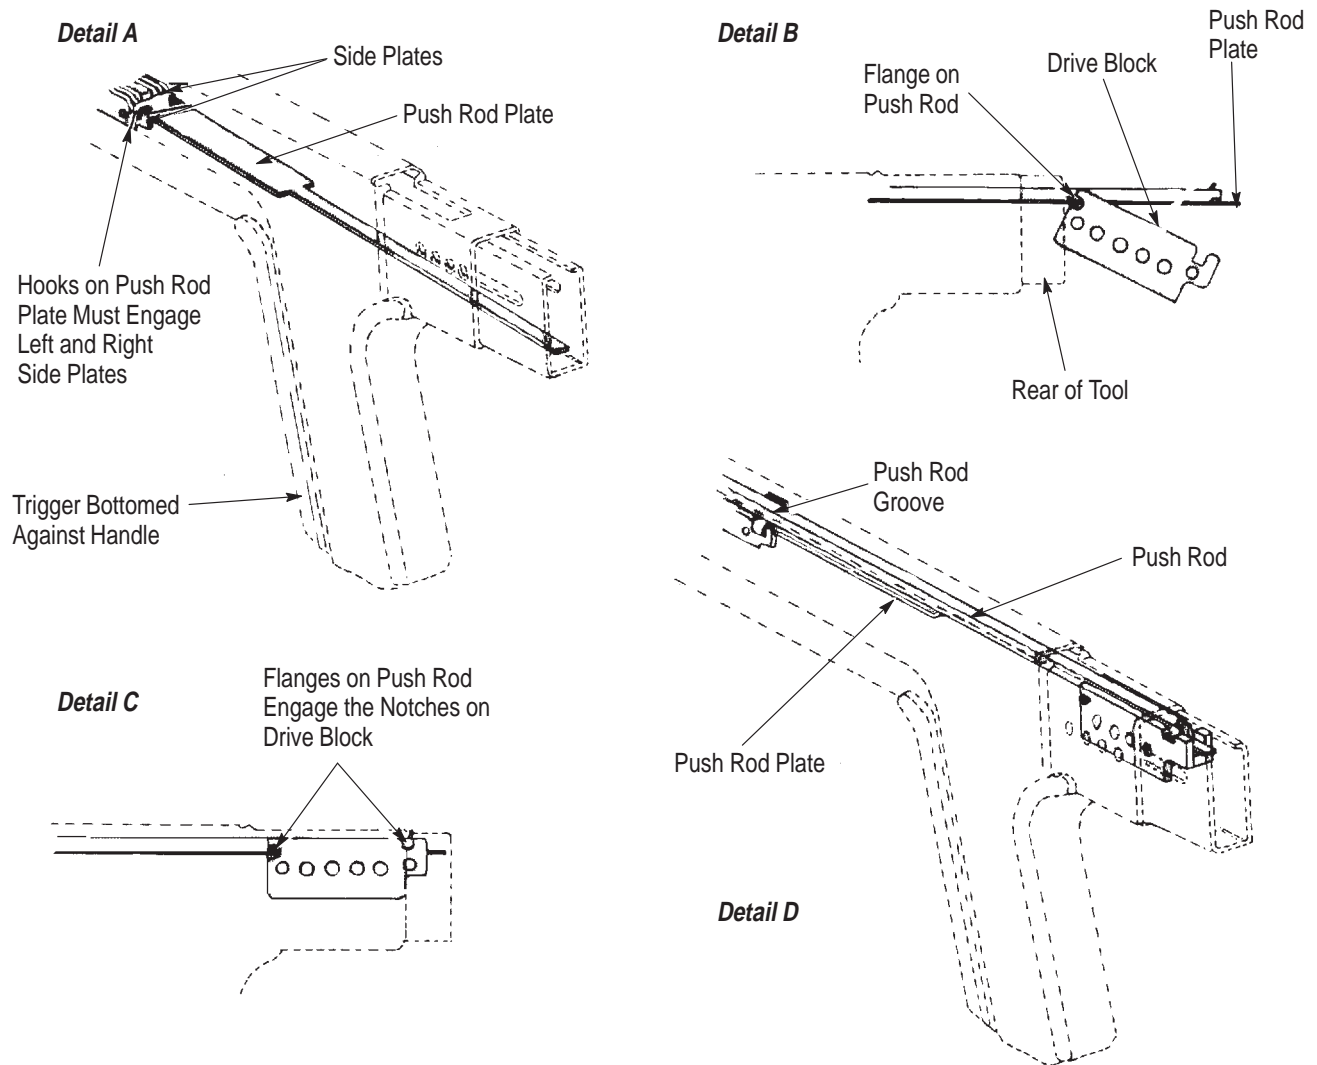

Figure 16
1. Squeeze and hold the trigger until it bottoms against the handle. *Do not release the trigger.* See Figure 16, Detail A.
2. Insert the push rod plate, wide end first, into the rear of the tool. Be sure that the hooks on the push rod plate engage in the left and right side plates. See Figure 16, Detail A.
3. Slide the push rod along the top of the push rod plate until the flange on push rod is even with the rear of the tool. See Figure 16, Detail B.
The push rod plate must be positioned between the drive block and the push rod. See Figures 16, Detail B and 16, Detail C.
5. Insert the assembled push rod, drive block, and push rod plate in the rear of the tool so that the front end of the push rod enters the push rod groove. See Figure 16, Detail D.